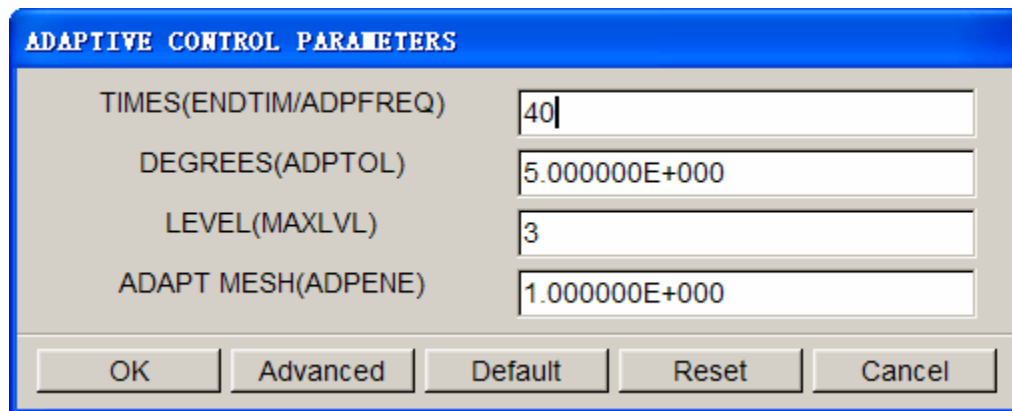

Figure 60: Adaptive control parameters dialog box
6. Click **Adaptive Parameters** button to display the **ADAPTIVE CONTROL PARAMETERS** dialog box illustrated in Figure 60. Set the **LEVEL (MAXLVL)** as **3**. This means that the mesh will be split twice if needed. Higher levels of adaptivity will result in better accuracy but require longer processing time. Since this is a simple part, adaptive level 3 will be sufficient. The default values will be used for other parameters. Click **OK** button to accept the default setting.